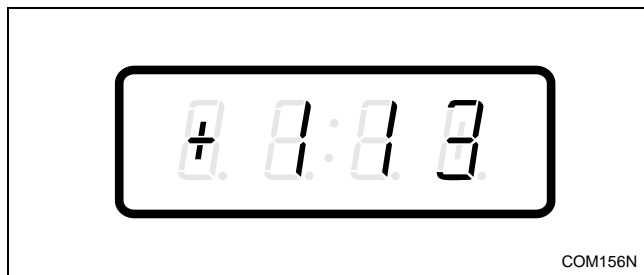

Figure 205
3. Press the DELICATES (+) or the COLD (-) keypad to scroll through the programmable options until “+113” appears in the VFD. Refer to *Figure 205*.